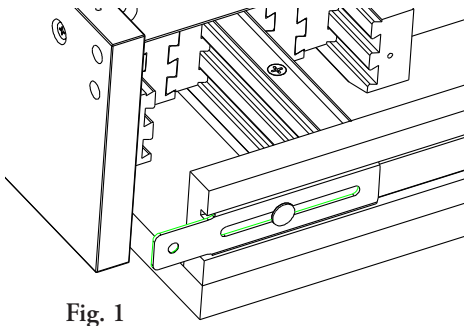

Fig. 1
1. Lay unit on side and fully extend table. Apply furniture wax to grooves of wood slides. (see fig. 1)